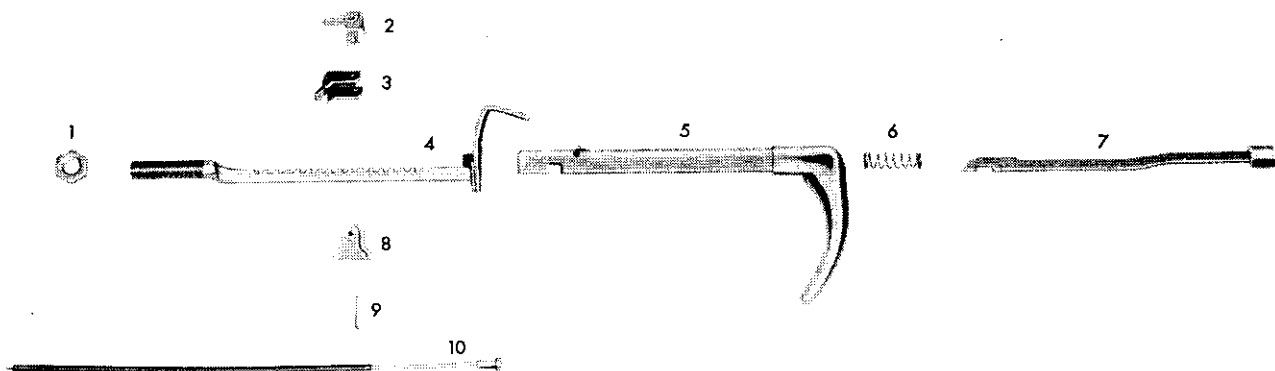

FIG. 374
File off the upset end of the rivet. Removal of the rivet (9, Fig. 374) then allows the removal of the plunger stop (8), latch spring (2), and latch (3). Withdraw the handle and plunger assembly and cable from the ratchet and handle guide assembly (4). Unhook the cable (10) from the plunger (5). Press the trigger release rod (7) slipping the end of the rod from the notch in the lower end of the plunger and remove the release rod and spring (6) from the handle.
Install the spring (6, Fig. 374) on the release rod (7) and install the rod in the handle (5) placing the notch of the release rod in the notch in the lower end of the plunger. Attach the cable (10) to the end of the plunger. Thread the cable through the ratchet and guide assembly (4) and install the handle and plunger assembly. Install the latch (3), latch spring (2), and plunger stop (8); align the holes of the three parts and the hole in the plunger and install a new retaining rivet (9). Peen the end of the rivet slightly.